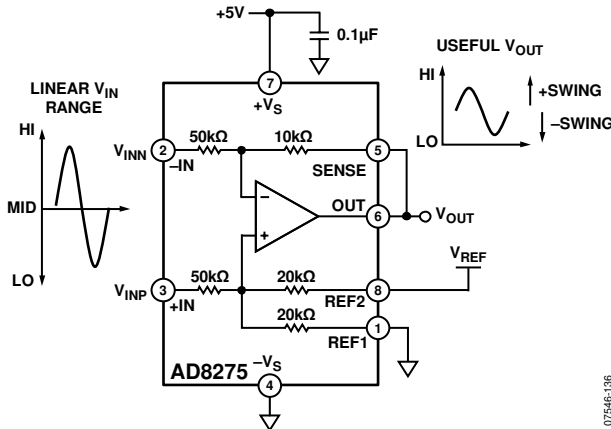
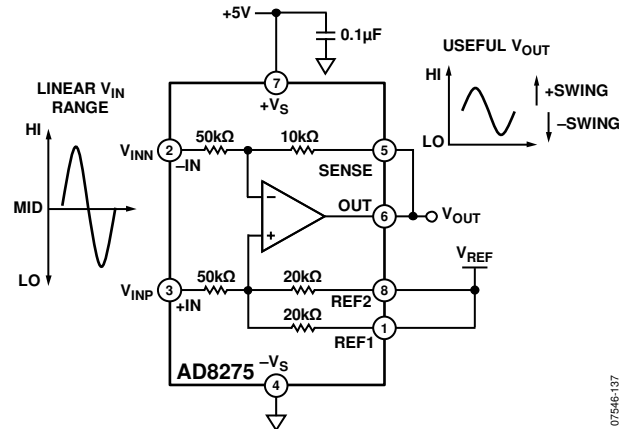

Figure 36. Split Reference
Figure 37. Shared Reference
Figure 36 and Figure 37, along with Table 6 and Table 7, provide examples of the possible input and output ranges for various supplies and reference voltages.
**Table 6. Input and Output Relationships for Split Reference Configuration in Figure 36**
**Table 7. Input and Output Relationships for Shared Reference Configuration in Figure 37**